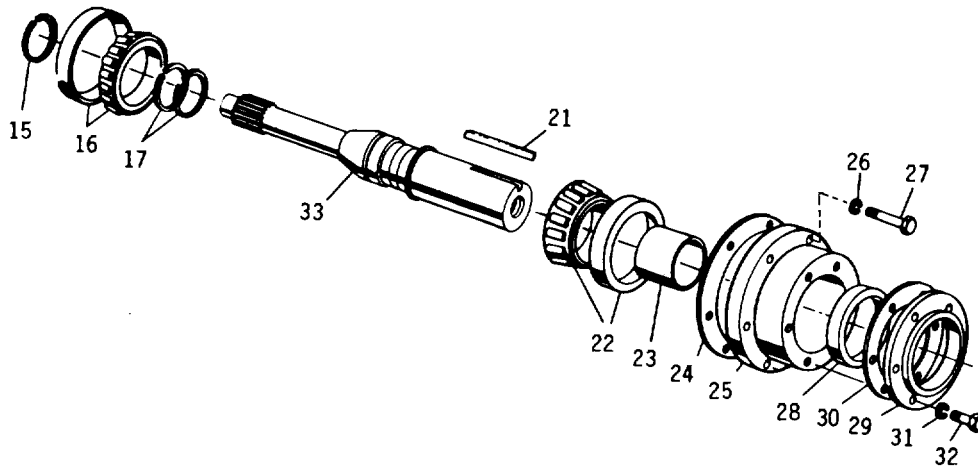

Fig. 25
(1) Disassembly (Fig. 25)
- (a) Remove two hook-type seal rings (17) from the output shaft (18).
- (b) When it is necessary to replace roller bearing assemblies (16) and (22), support the shaft and bearing assembly, small end up, on two steel plates in an arbor press. The plates must be placed between the two bearings, making certain that only the inner race of the bearing rests on the plates. Press the shaft out of the front roller bearing.
- (c) If the rear bearing must be removed, use a hammer and chisel to crack sleeve (23) over the keyway slot. This will loosen the sleeve so that it can be removed. Then place the shaft, rear end up, in a press Place the bearing inner race on the plates and press the shaft out of the sleeve and the rear output bearing.
- (d) Do not remove lip-type oil seal (28) from bearing retainer (29) unless replacement is necessary. If necessary, remove the seal.
(2) Cleaning, Inspection, Wear Limits. Refer to paragraph 74.4 for cleaning and inspection procedures, and to 74.28-34 for wear limits information.
(3) Assembly (Fig. 25)
- (a) If oil seal (28) was removed from bearing retainer (29), install new replacement. Press the new seal from the chamfered end of the retainer, spring side of seal toward the chamfered end of the retainer, flush to 1/16 inch (1.5875 mm) below the bottom of the chamfer.
- (b) If roller bearings (16) and (22) were removed, support the shaft (18), small end up, in an arbor press. Install a roller bearing on the shaft so that the thick side of the inner race is down. Press the bearing onto the shaft until it firmly seats against the shoulder on the shaft.
- (d) Heat sleeve (23) to approximately 350°F and press it onto the shaft until it is seated against the bearing.
- (e) Install two hook-type seal rings (17) on the output shaft.